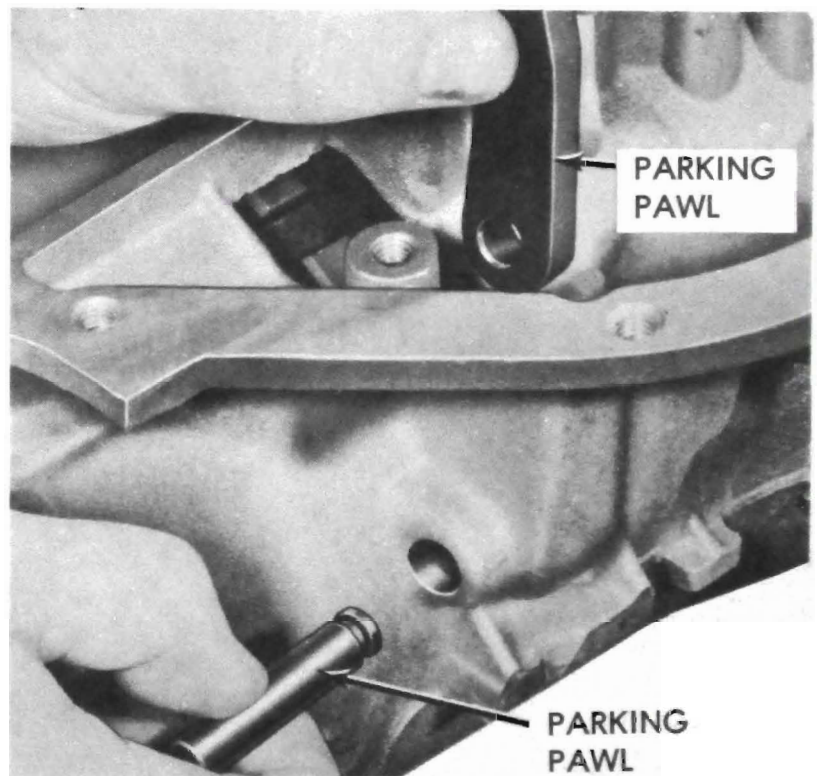

Figure 76-80
j. Remove parking pawl shaft, and parking pawl. See Figure 76-80.